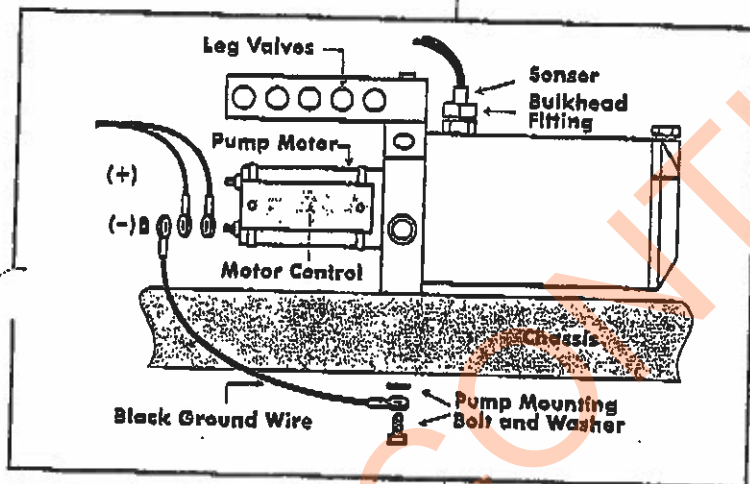

Figure 3b
1. Check all ground connections. These connections are critical for the proper operation of the control system. Check the battery to chassis ground, the pump motor negative post to chassis ground and the motor control ground wire (black) to the pump motor negative post. Incorrect or inadequate grounds can lead to permanent damage of the motor control unit. (Fig. 3b)
3. Check motor control to pump motor ground connection. (Figure 3b)